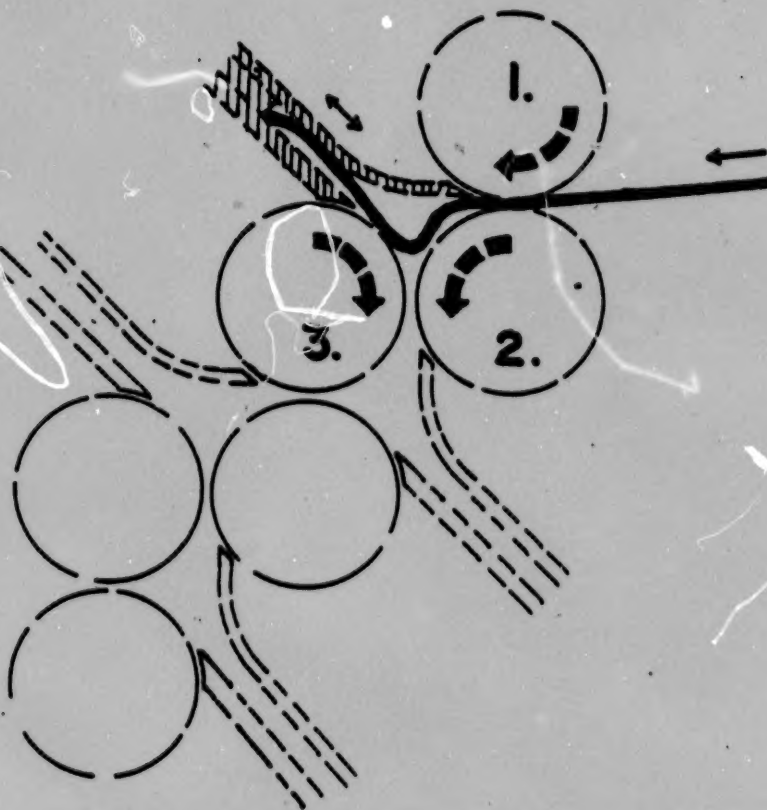

FIGURE 2. FOLDING PROCEDURE STEP 2
b. step 2. The leading edge of the sheet strikes the fold plate gauge, which has been preset by the operator to fold size requirements. The sheet's forward movement, having been stopped by the fold plate gauge, causes the sheet to buckle and be drawn in between the Number 2 and 3 rollers which fold the sheet at the required first fold line. (In a right angle section the sheet, having been previously scored or perforated, will buckle and automatically fold on the score or perforation line.) It will be noted, in steps 1 and 2, that roller Number 1 acts only as a drive roller, while Number 2 roller which is a stationary (not tension) adjustable roller, operates with Number 1 as a driving roller and then with Number 3 as a fold roller for plate Number 1 (See Figure 2).